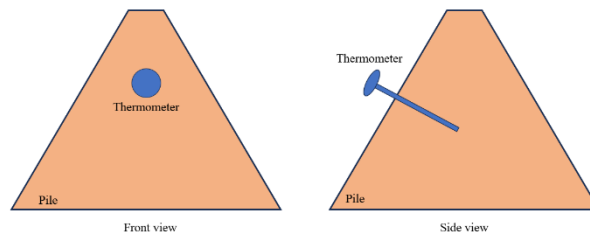

Figure 2. The point of Temperature Measurement on the
- Insert the thermometer at a height of about two-thirds to three-quarters the height of the pile and angle it toward the midpoint of the pile's core. (**Figure 2.** The point of Temperature Measurement on the pile)